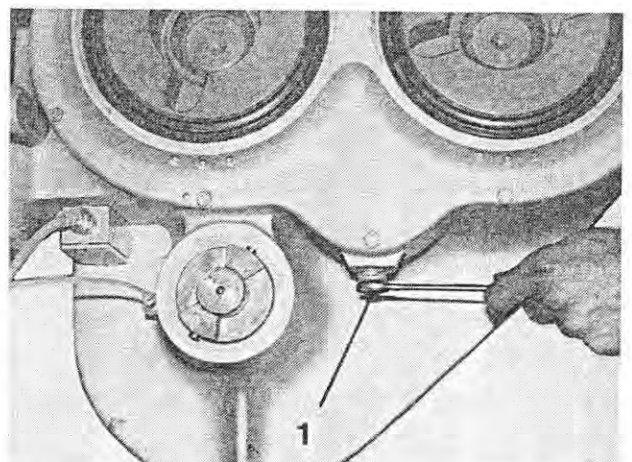

Fig. 82
3. Unscrew the draining plug (Figure 82/1) on the gear box of the worm trough.